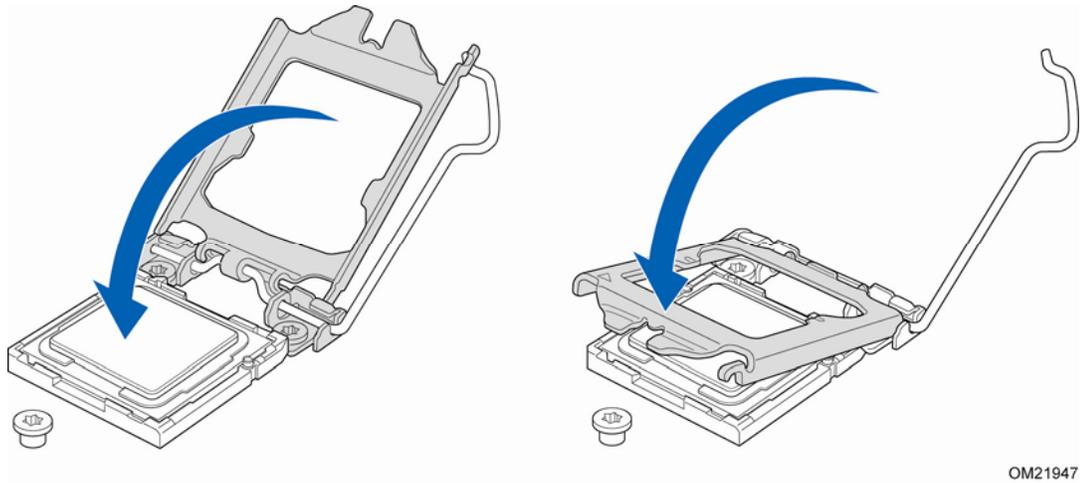

Figure 12. Lower the Load Plate
7. Lower the load plate over the processor while leaving the socket lever in the open position (Figure 12).